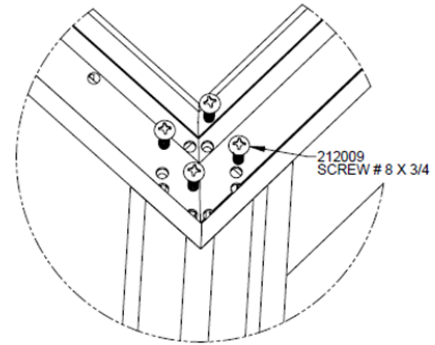
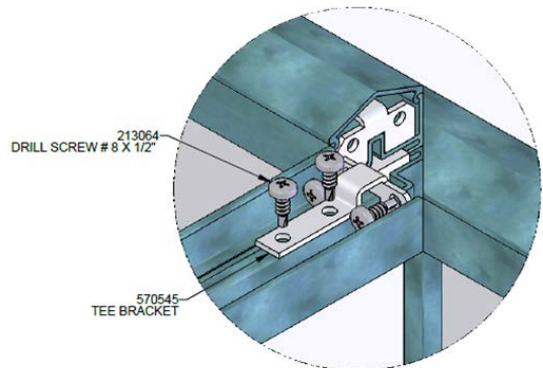

Figure 10
Figure 11
- The header pieces will attach to the posts and panels with the fasteners provided. **See Figure 10.** Find each header by size according to the breakdown drawing of the parts. Where a header comes off the wall and does not attach to a post, use the tee bracket to connect the headers together. **See Figure 11.** Once headers are attached, cover them with the header caps by snapping them into place.